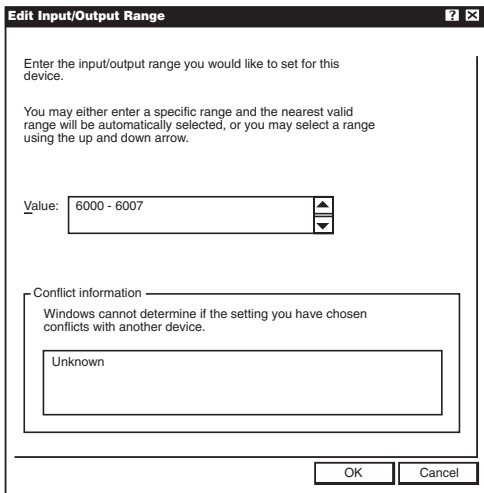

Figure 4-3. Edit Input/Output Range.
3. Double-click on the words Input/Output Range. The screen shown in **Figure 4-3** will appear.